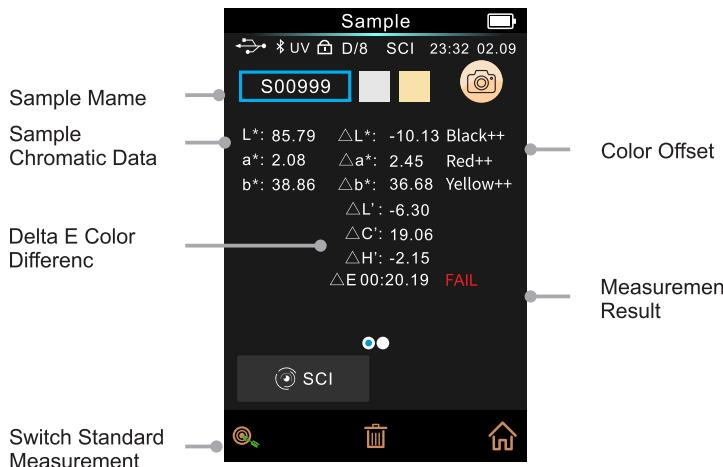
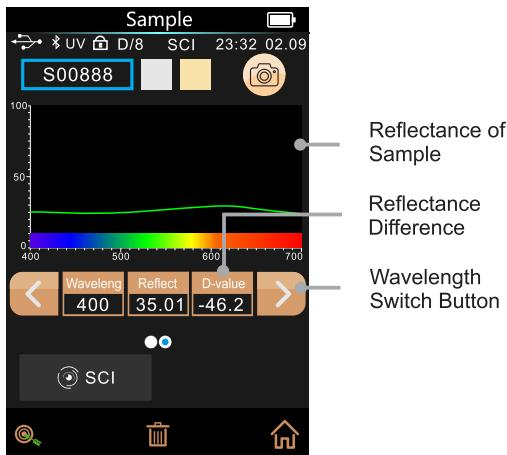

Figure 11 Sample Measurement
Figure 12 Reflectance of Sample Measurement
After testing the standard, click “Sample measurement” to enter Sample Measurement interface. It is the same steps with standard measurement. After measurement, it will display as shown in Figure 11 and in Figure 12.
9) Wavelength switch button: As shown in Figure 12, click or , the wave length and reflectance of the current sample will switch as range of 10nm interval.